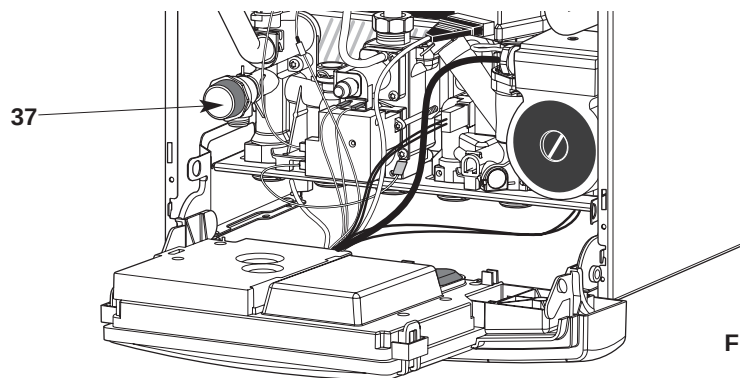

Fig. 9
- fit the connectors and taps (fig. 9)